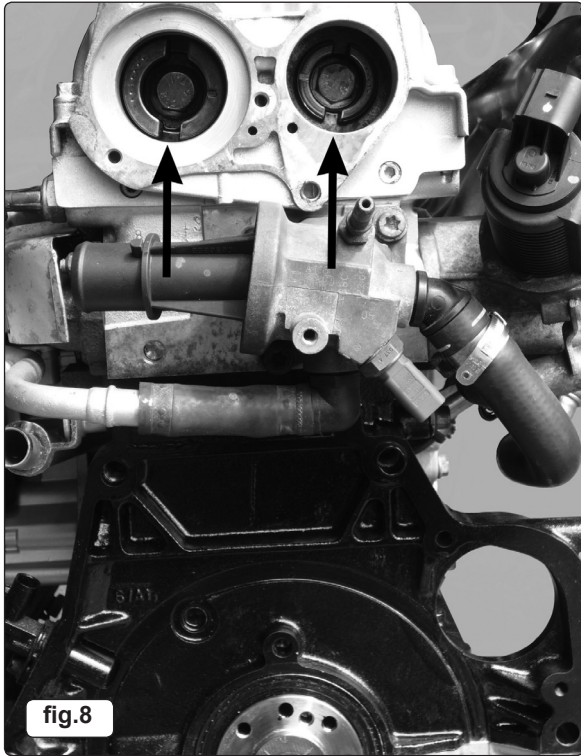

fig.8
- 3.7.2. **VS5082 camshaft holding tool** locates into the camshaft at the rear of the engine (gearbox end). This requires the removal of the vacuum pump and the high pressure fuel pump (fig.8).